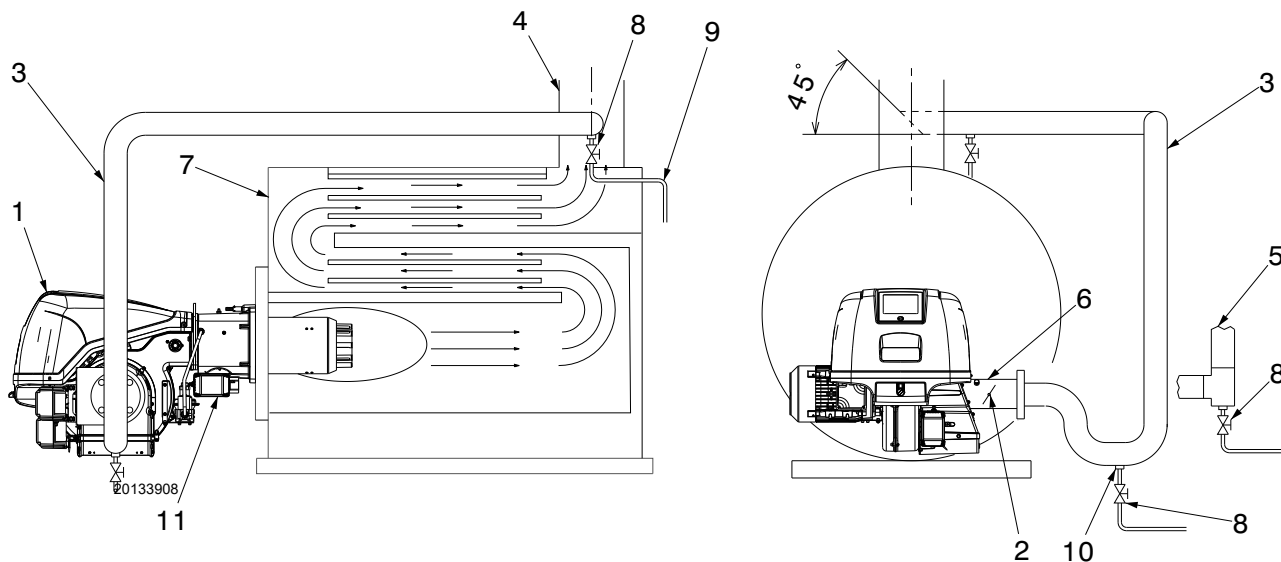

Fig. 26
- Normally the pipe would be connected to the flue stack as shown in Fig. 26, forming an angle of 45° facing the flow of the flue gases and with the centre of the angle located at the centre of the flue. The pipe can be connected to the flue gas chamber, but should anyway be kept at the same angle of 45° facing the flow of the flue gases and with the centre of the angle at the centre of the flow.
Key to layout (Fig. 26)
Burner output kW	Flue gas pressure at test point 6)(Fig. 26) - mbar